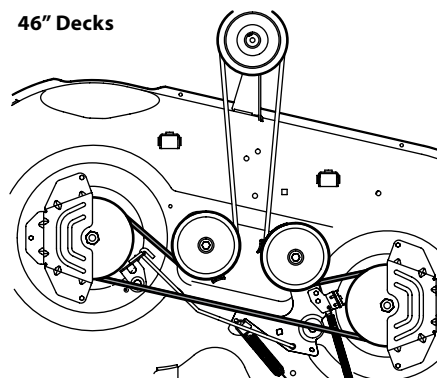
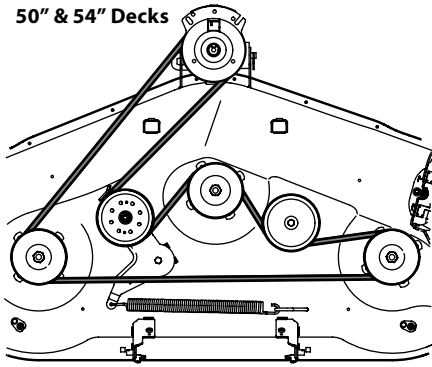

Figure 4-16
Figure 4-17
4. Route the new belt as shown in the applicable figure on the following pages. See Figure 4-16 for 42" decks, Figure 4-16 for 46" decks and Figure 4-17 for 50" & 54" decks.